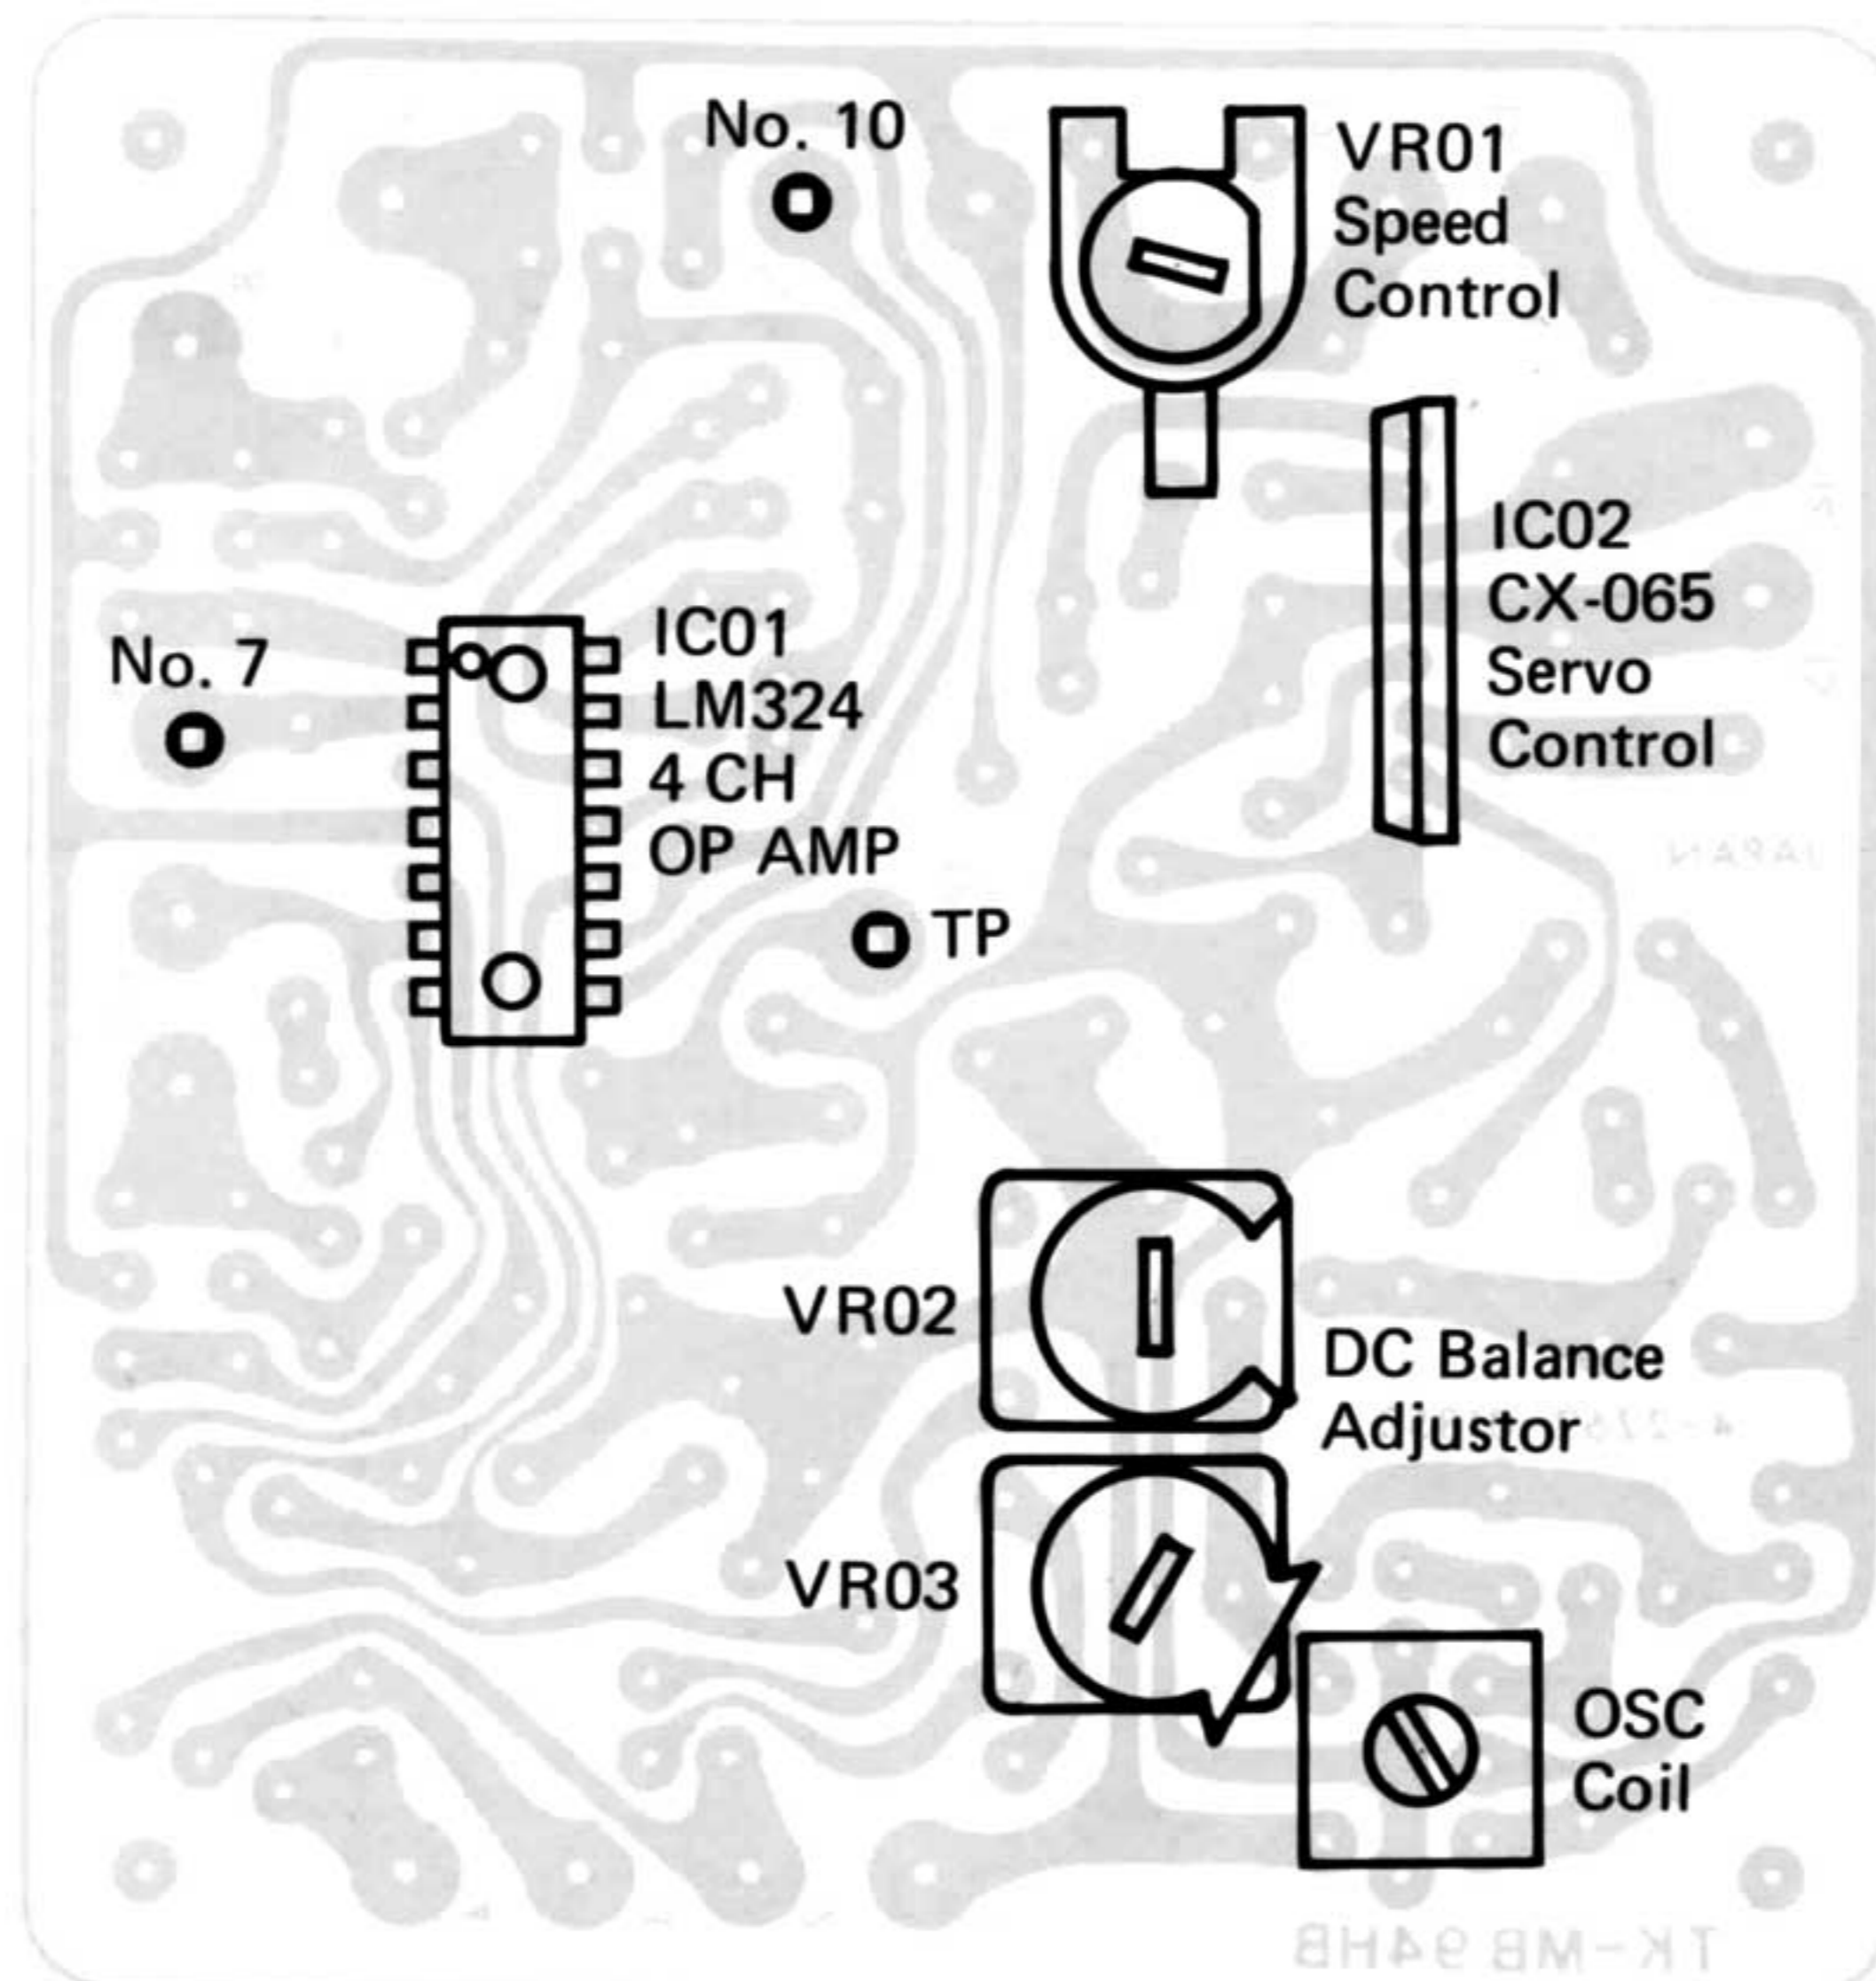

Fig. 1
- B. Connect a DC VTVM between test points and terminal No. 10, and subsequently between test point and terminal No. 7. Adjust first VR03 and then VR02 for minimum DC voltage, the value measured should be less than 10 mV DC when simultaneously measured with two DC VTVM. (Fig. 1)